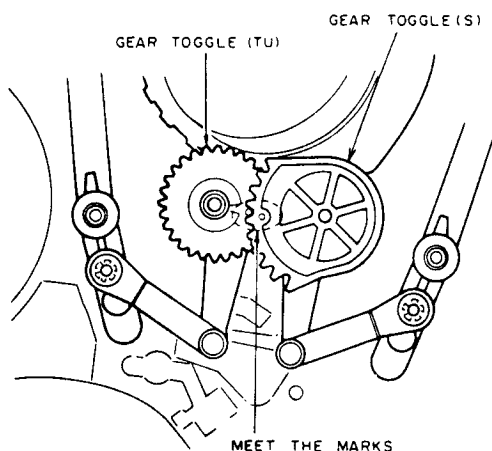

Fig. 4-17
- 8) Set the GEAR TOGGLE (TU) and (S) to the unloaded position with your fingers. At this time match the marks of the GEAR TOGGLE (TU) and (S) as shown in Fig. 4-17.